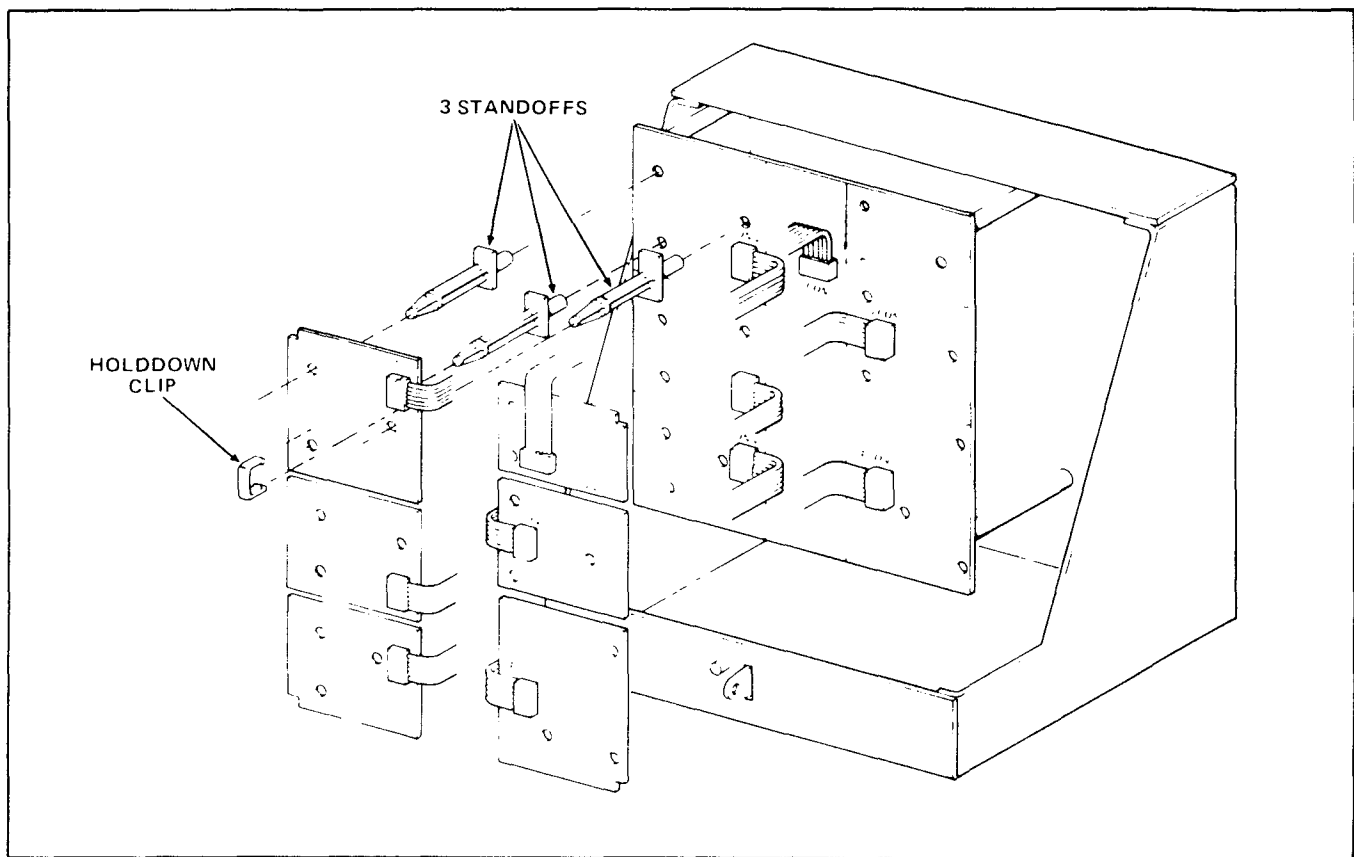

Figure 5. Modification PCB Location
- 1 Locate modification area on Regulator PCB as illustrated in Figure 5